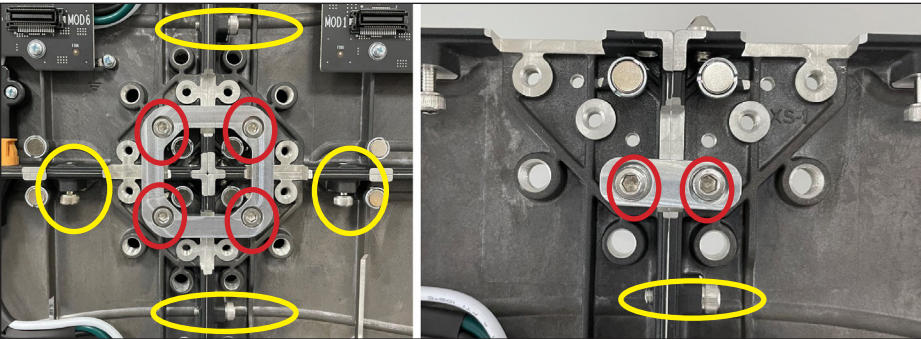

Figure 17: Align Panel Faces
- 7. Use a 5 mm Allen wrench and socket-head stitch screws (circled in red) to attach the panels together. Refer to **Figure 17**.